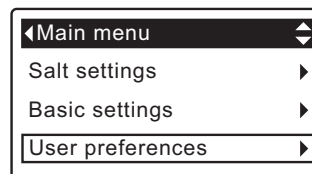

FIG. 51
1. From any of the rolling status screens, press the SELECT (O) button to display the **Main menu**.
2. Press the DOWN (▼) button to scroll through the menu options until **User preferences** is highlighted (See Figure 51).